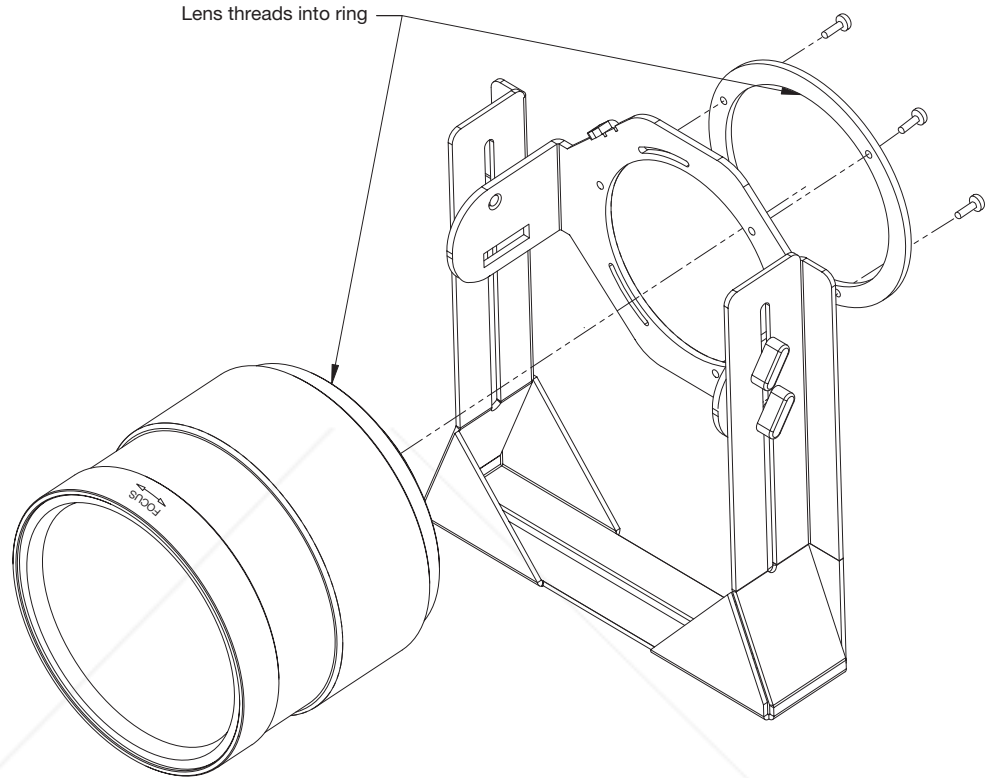

Figure 3-21. Attaching the Anamorphic Lens to the Lens Ring
4. Use the Lens Mounting Screws to attach the Lens Adapter Ring (item #1) to the Pitch Adjustment Yoke (item #2); see Figure 3-21. (Use the round, threaded holes on the yoke).